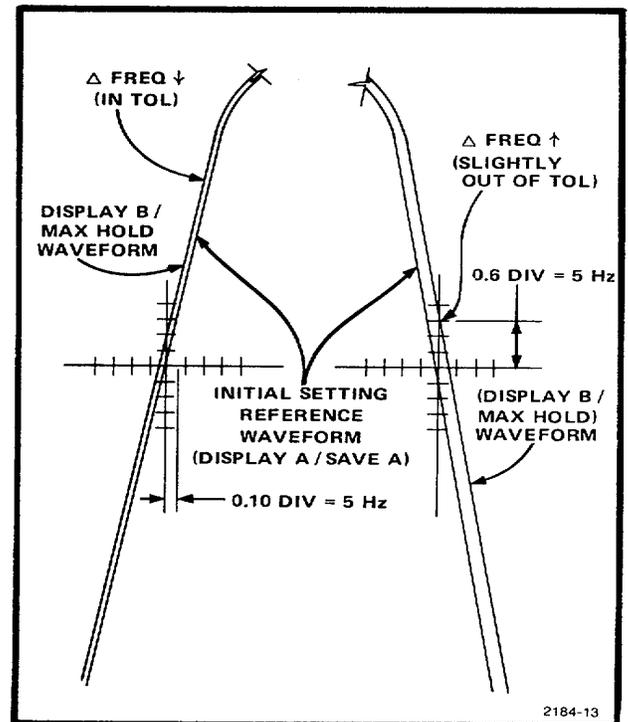

Fig. 3-7. Frequency stability test waveform interpolation.
g. After one hour, verify that any change in the displayed waveform is not more than 5 Hz. That is, any change in the displayed signal frequency, as indicated by horizontal and vertical separation between the display A "reference" waveform and the display B waveform, should be less than 0.6 vertical division (0.1 horizontal division). Refer to Fig. 3-7.